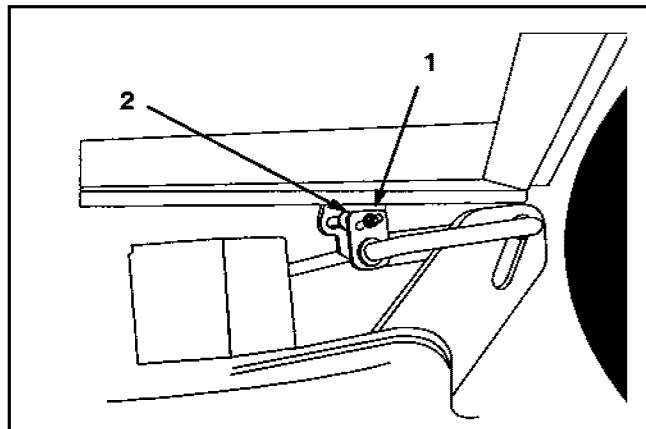

Figure 52
1. Loosen adjustment bolt on one side of the tractor and rotate hanger bracket to raise or lower mower (Figure 52).